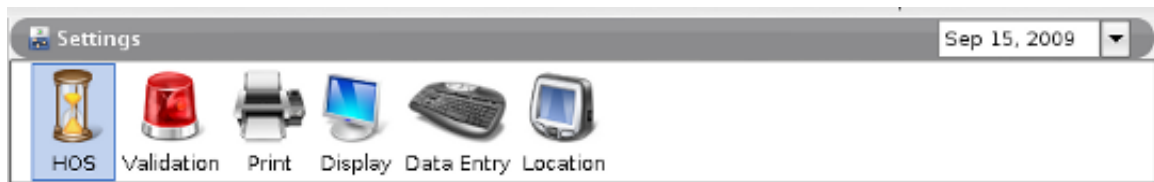

Figure 4.4. Settings Navigation Bar (HOS)
2. Select the "HOS" settings navigation item located at the top of the settings screen see Figure 4.4, "Settings Navigation Bar (HOS)"